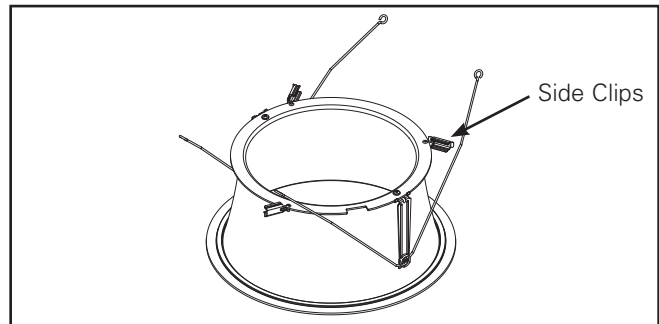

Figure 34
- Remove trim assembly from protective packaging and rotate side clips (3) outwards. (Figure 34).